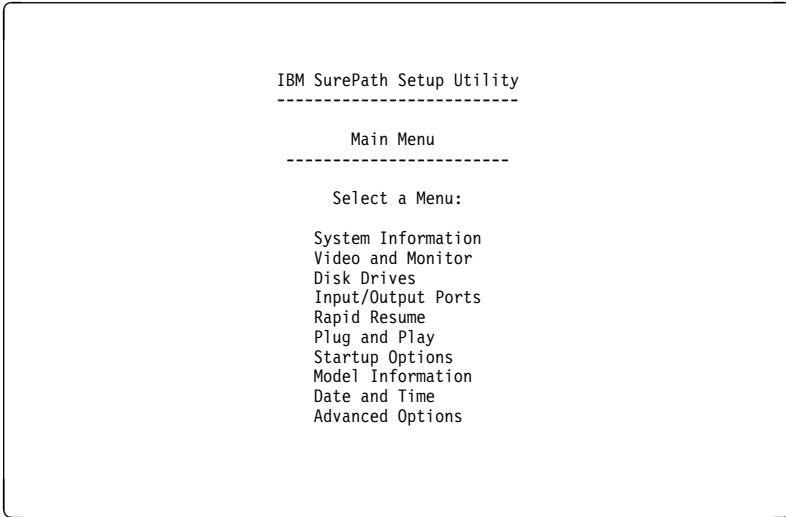

Figure 1-1. Setup Utility Screen
- If you have an error, the computer shows a popup window with an error code and description. Press **Enter** to get the Setup Utility screen (see Figure 1-1 on page 1-18).